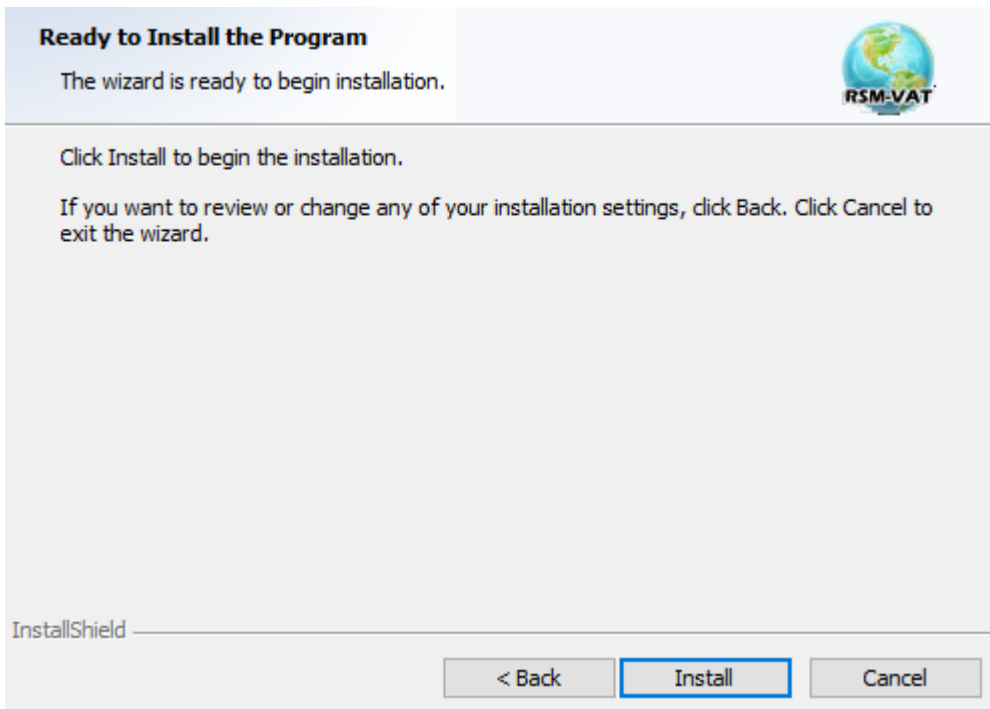

Fig. 3 Ready to Install
- Click the “**Next**” button, it will show the “Ready to Install” window as shown in Fig. 3.